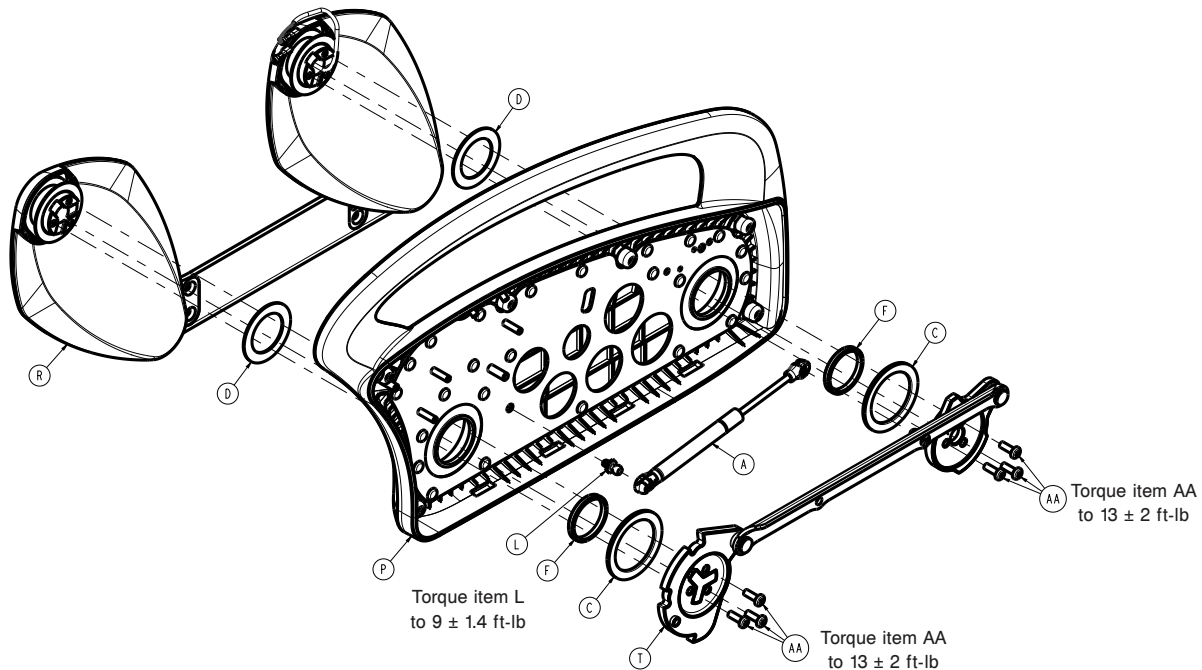

Figure 62 – Replacing the foot siderail hoop
15. Using a ratchet and a T30 Torx driver, remove the six screws (AA) that secure the timing link cams to the siderail arms (Figure 62). Save the screws.
11. Using a ratchet and a T30 Torx driver, remove the six screws (AA) that secure the timing link cams to the siderail arms (Figure 62). Save the screws.
12. Using a small slotted screwdriver, unclip the gas cylinder (A) from the timing link assembly (T) and the siderail hoop frame (P) to remove the gas cylinder (Figure 62).